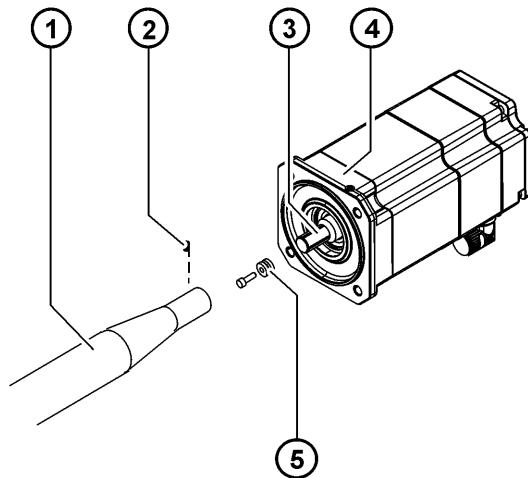

Fig. 11-15: Motor with connecting shaft
1. Remove corrosion protection from the new motor A5 (>>> Fig. 11-15).